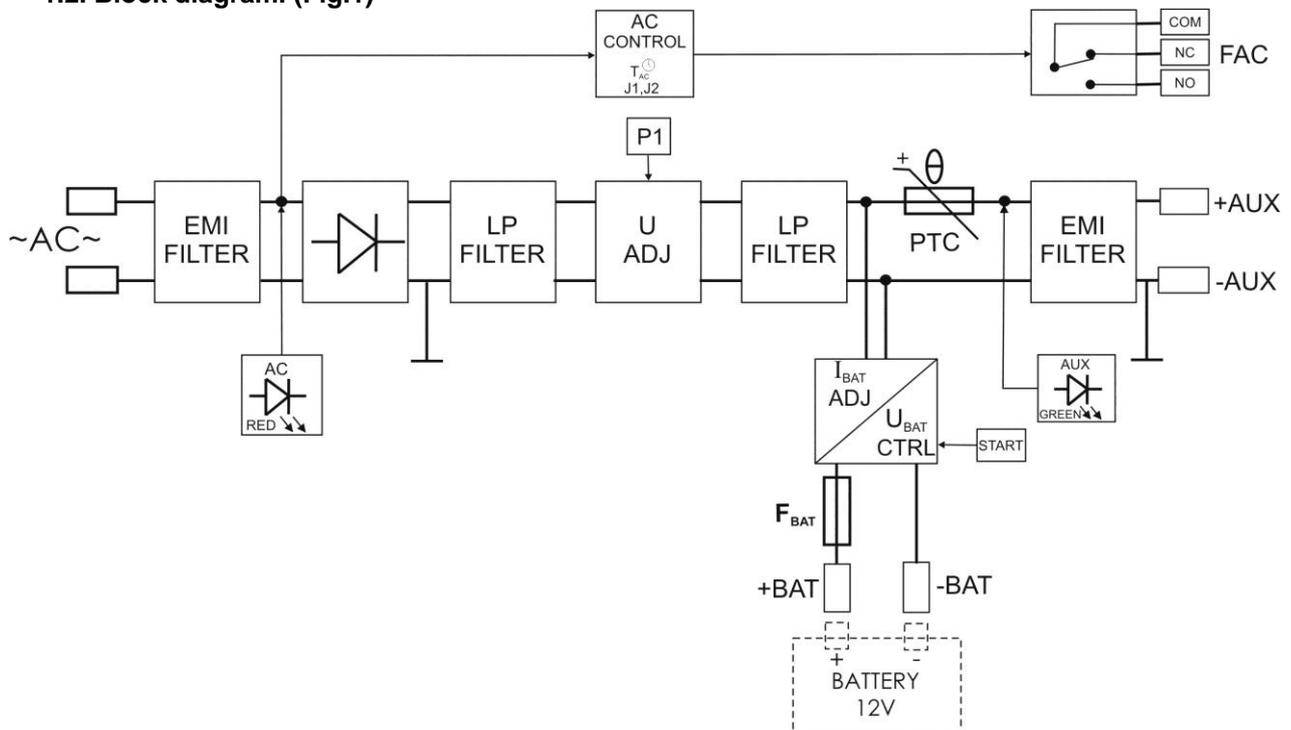

Fig.1. Block diagram of the PSU module.
## 1.2. Block diagram. (Fig.1)
[4]	FAC - AC absence technical output – relay type Caution! In Fig.1. the set of contacts indicates potential-free relay's status which corresponds to AC power outage (AC power failure).
**CAUTION!** In Fig.1. the set of contacts indicates potential-free relay's status which corresponds to AC power outage (AC power failure).